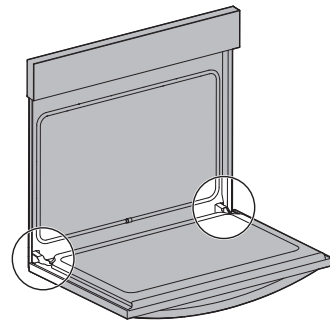

Figure 19: Door hinge location
1. Open oven door completely, horizontal with floor (Figure 19).
3. Fully open the oven door, horizontal with floor (Figure 19).